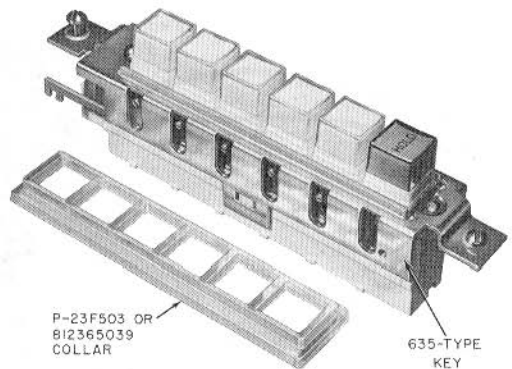

Fig. 9—Current Production 635-Type Key and Collar
- (6) Remove caps and install key designation numbers.
- (7) Replace caps.
- (8) Install proper collar furnished with 635-type keys. Early production keys have rectangular buttons, and current production keys have square buttons (Fig. 9) making the collars incompatible.